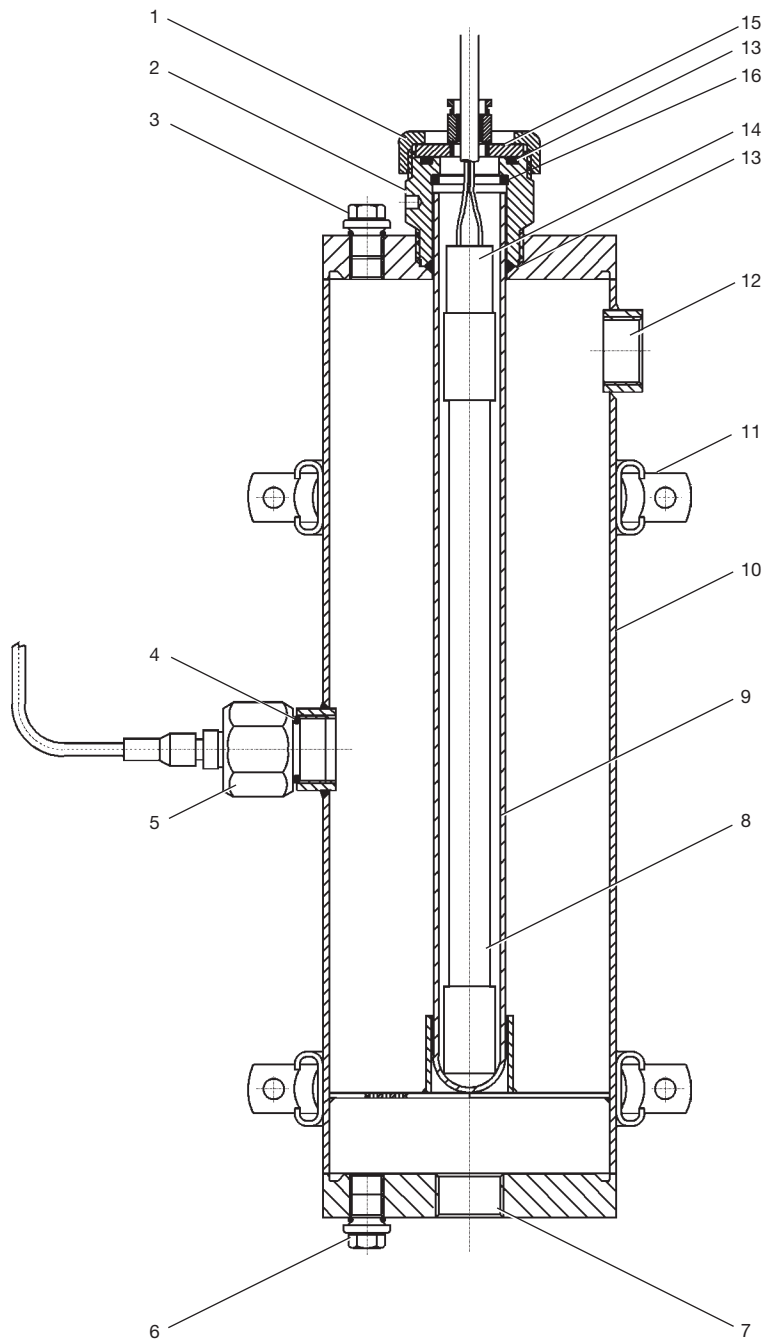

Fig. 2: Construction of the radiation chamber
- Check whether the Teflon ring is located in the groove provided in the retaining fixture of the protective tube (see Fig. 2). Otherwise fit the Teflon ring into the retaining fixture of the protective tube such that it snaps into the groove.